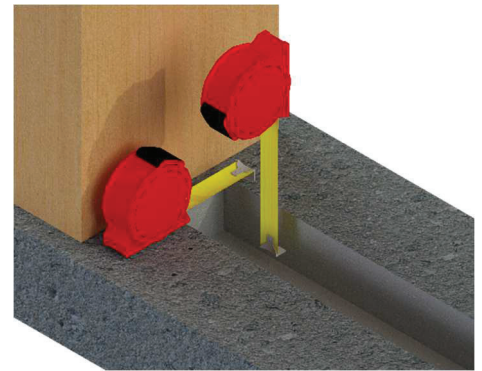

FIGURE 3
1. Double check the trench depth and width with the actual bottom track provided. The trench depth should have an extra ½" shim space provided below the track system setup. *Depth varies due to different track types. (Fig.3)